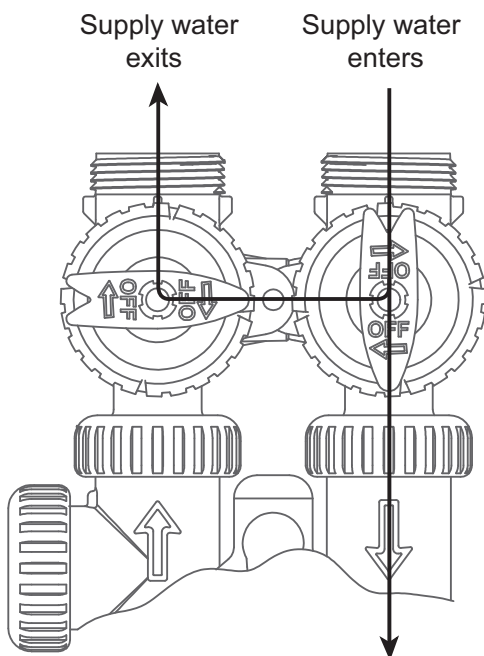

Figure 3 Diagnostic Position
- c. Diagnostic Position:** The inlet handle points toward the control valve and the outlet handle points to the center of bypass valve. Untreated supply water is allowed to flow to the system and to the building, while not allowing water to exit from the. Refer to Figure 3. This allows the service technician to draw brine and perform other tests without the test water going to the building.